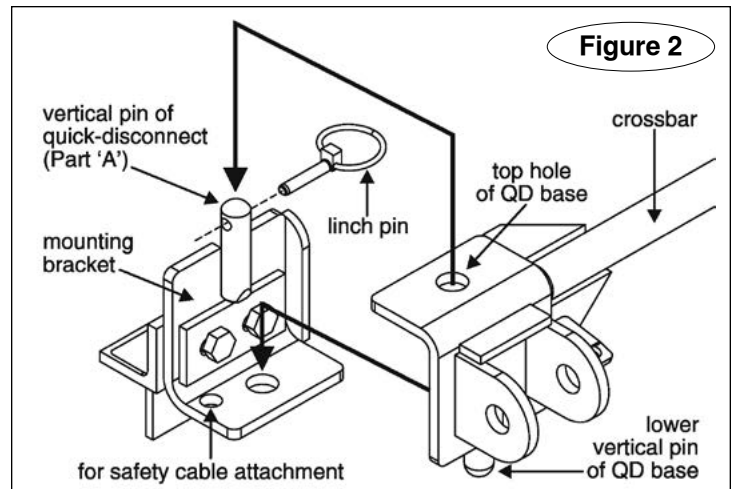

Figure 2
2. Test-fit the crossbar – lower the crossbar (Figure 2) over the quick-disconnects. The vertical pins at the top of both QDs should fit through the top holes at the ends of the crossbar (Figure 2), and the vertical pins at the bottom of the crossbar should fit through the lower holes on the quick-disconnects (Figure 2).
5. Insert the linch pins (Figure 2) through the upper holes in the vertical pins on both QDs.